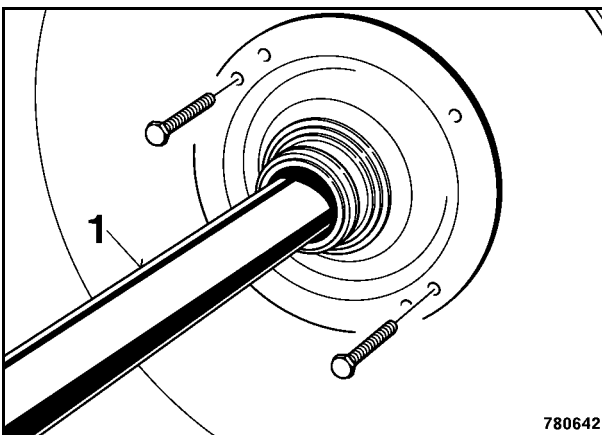

Fig. 11
18. Pick up the lifting device 1 (Fig. 11) with a crane and slide it over the exciter shaft.